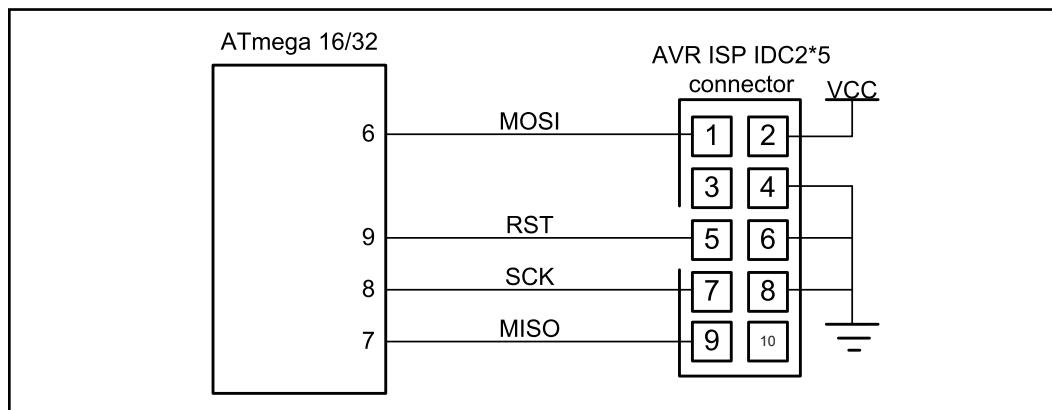

Figure 11. ISP 10-pin Connections (See www.atmel.com for 6-pin version)
2. An in-circuit serial programmer (ISP) allows the developer to program and debug their microcontroller while it is in the system. This is done by a few wires with a system setup to accept this configuration. In-circuit serial programming is excellent for designs that change or require periodic updating. AVR has two methods of ISP. They are SPI and JTAG. Most of the ATmega family supports both methods. The SPI uses 3 pins, one for send, one for receive, and one for clock. These pins can be used as I/O after the device is programmed. The designer must make sure that these pins do not conflict with the programmer. Notice that SPI stands for "serial peripheral interface" and is a protocol. But ISP stands for "in-circuit serial programming" and is a method of code loading. AVRISP and many other devices support ISP. To connect AVRISP to your device you also need to connect VCC, GND, and RESET pins. You must bring the pins to a header on the board so that the programmer can connect to it. Figure 11 shows the pin connections.